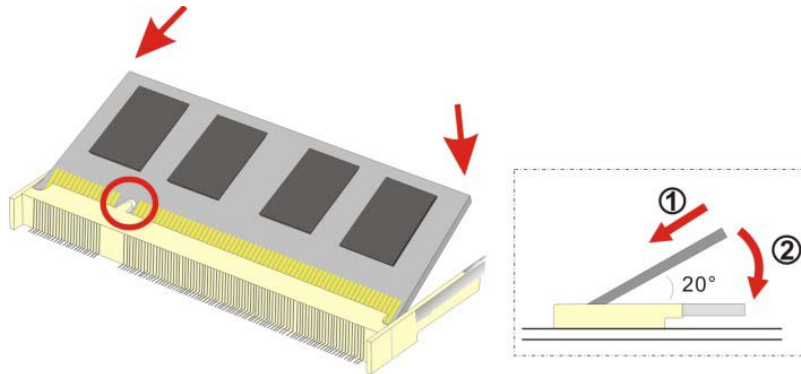

Figure 3-6: SO-DIMM Installation
Step 4: Align the SO-DIMM with the socket. The SO-DIMM must be oriented in such a way that the notch in the middle of the SO-DIMM must be aligned with the plastic bridge in the socket (**Figure 3-6**).
Step 5: Push the SO-DIMM into the socket at an angle (**Figure 3-6**).
Step 6: Gently pull the arms of the SO-DIMM socket out and push the rear of the SO-DIMM down (**Figure 3-6**).